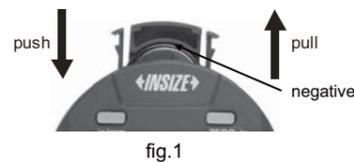

fig.1
- Install and remove battery(CR2032), the negative side of battery should face out(fig.1).